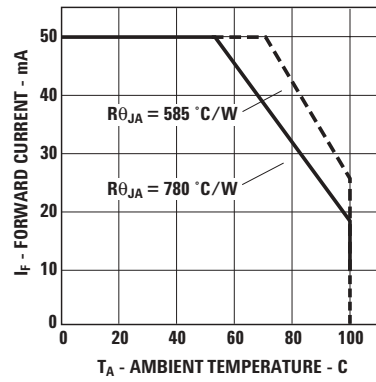
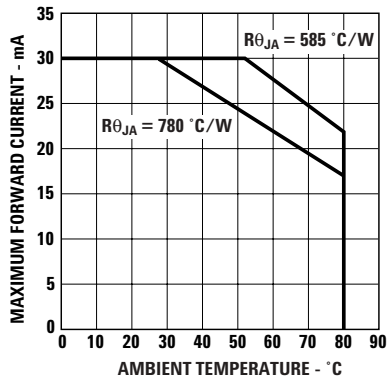

Figure 4. Forward current vs. ambient temperature
Figure 8. Forward current vs. ambient temperature.
1. Derate linearly as shown in Figure 4 and Figure 8.